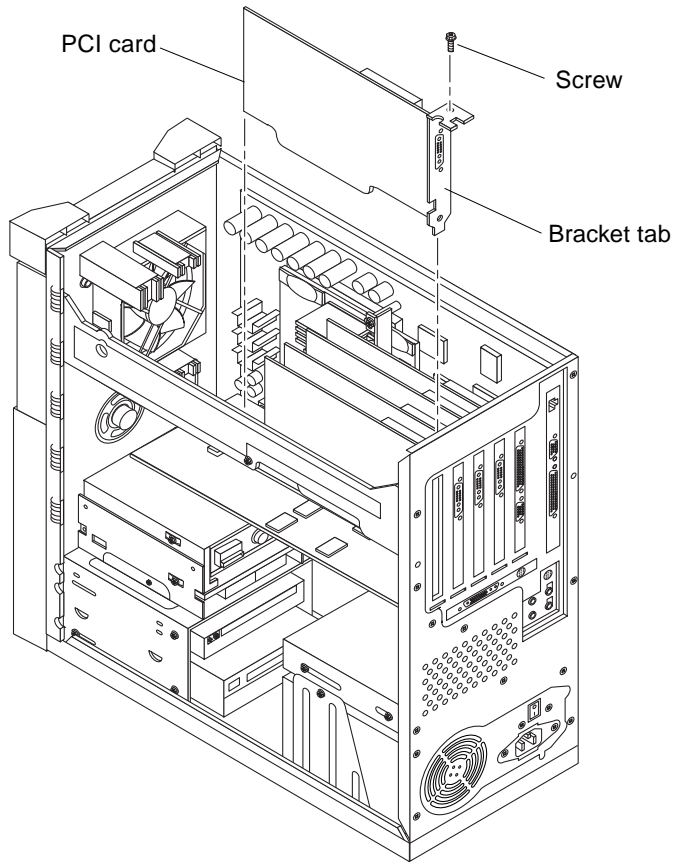

FIGURE 8-5 Removing and Replacing the PCI Card
2. **Remove the PCI card as follows (FIGURE 8-5):**
1. **Replace the PCI card as follows (FIGURE 8-5):**